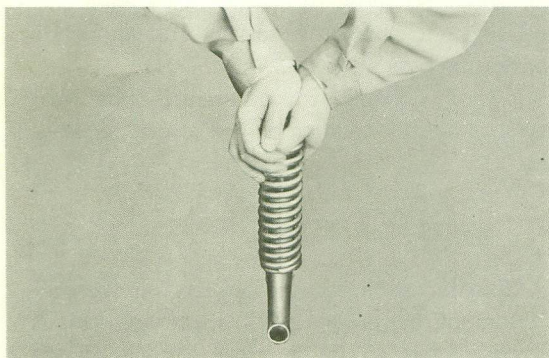

Fig. 4-9-2
- 2) Depress the rear cushion as shown in Fig. 4-9-2, and release it. If the cushion quickly returns halfway and then slowly returns to the fully extended position, the rear cushion is in good condition. But if the cushion quickly returns to the fully extended position, check the cushion for very noticeable oil leakages, and replace the whole assembly if the oil leaks.